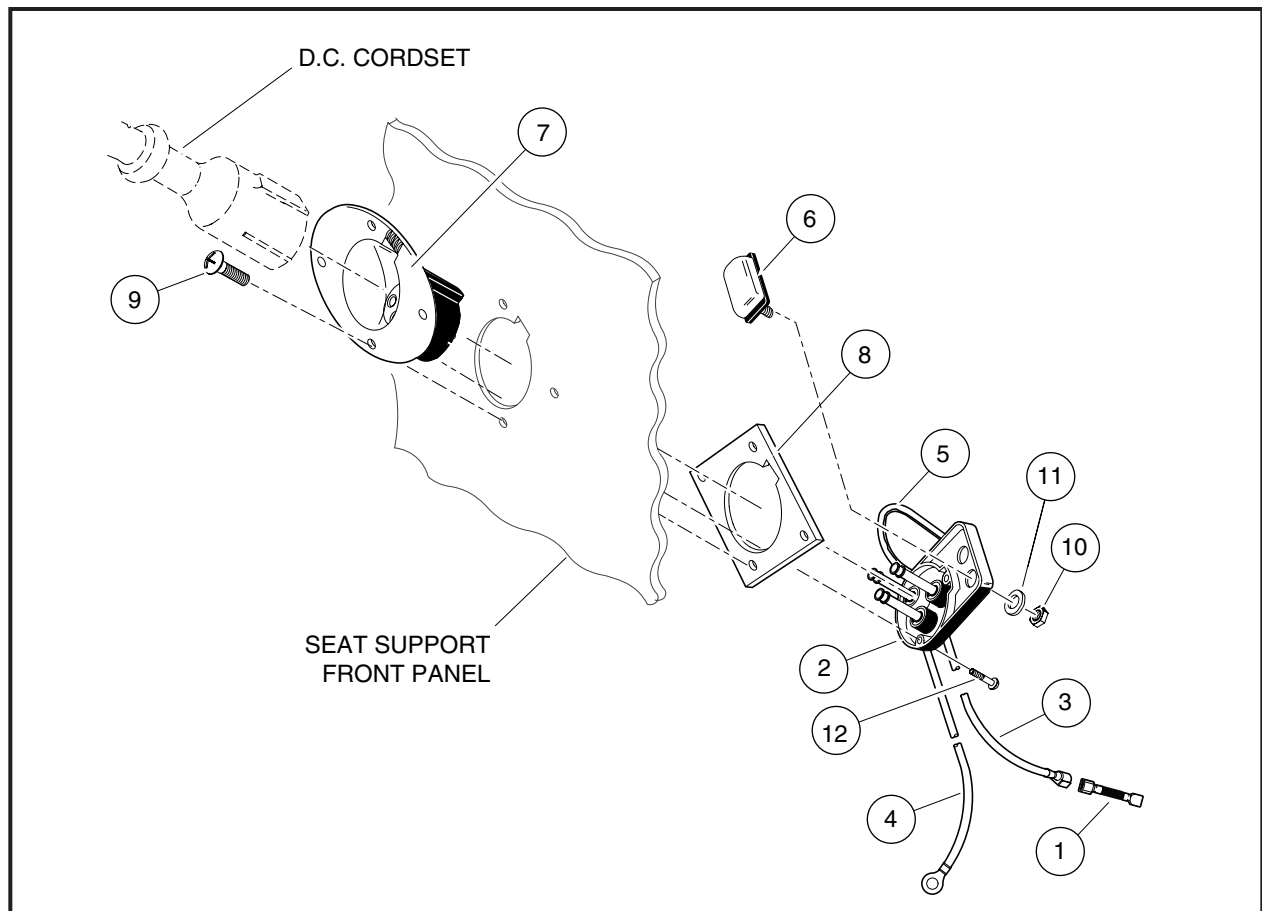

FIGURE 17-17
### Removing the Receptacle (Figure 17-17):
1. Remove the No. 10 red wire (4) from the positive post of battery No. 1, and then pull the No. 10 red wire to the receptacle (2) (**Figure 17-17**).
2. Locate the 1/4" "quick disconnect" terminal on the No. 10 grey wire from the charger receptacle. Disconnect the No. 10 grey wire (3) at this terminal, leaving the sense lead fuse (1) attached to the grey wire from the on-board computer (**Figure 17-17**).
3. Remove the No. 10 black wire (5) from the charger receptacle using a ratchet and a 3/8" socket.
4. Use a phillips screwdriver to remove the four screws (9) from the bezel (7), and the three screws (12) from receptacle (2).
### Installing a New Receptacle (Figure 17-17, Page 17-35):
### Removal of receptacle fuse link (Figure 17-17, Page 17-35):
### Installation of new receptacle fuse link (Figure 17-17, Page 17-35):